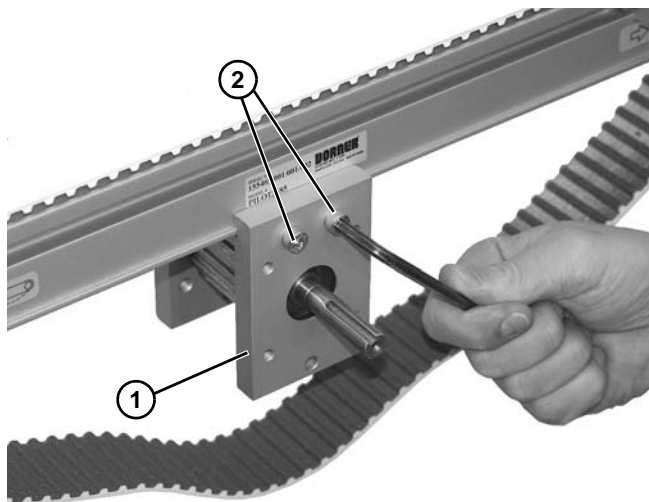

Figure 89
8. Secure center spindle assembly (**Figure 89, item 1**) with two screws (**Figure 89, item 2**) on each side of mounting block. Do not tighten.
11. Tighten socket head screws (**Figure 89, item 2**) to 7 Nm.